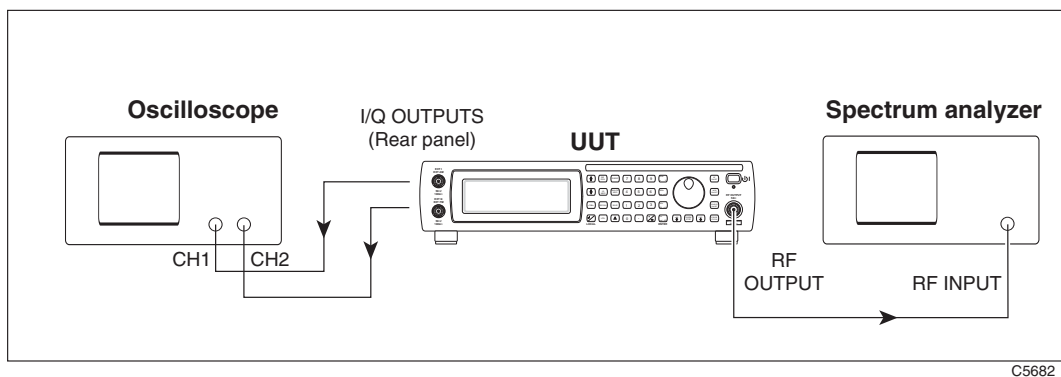

Fig. 6-5 Real time baseband test setup
- 1 Connect the test equipment as shown in Fig. 6-5.